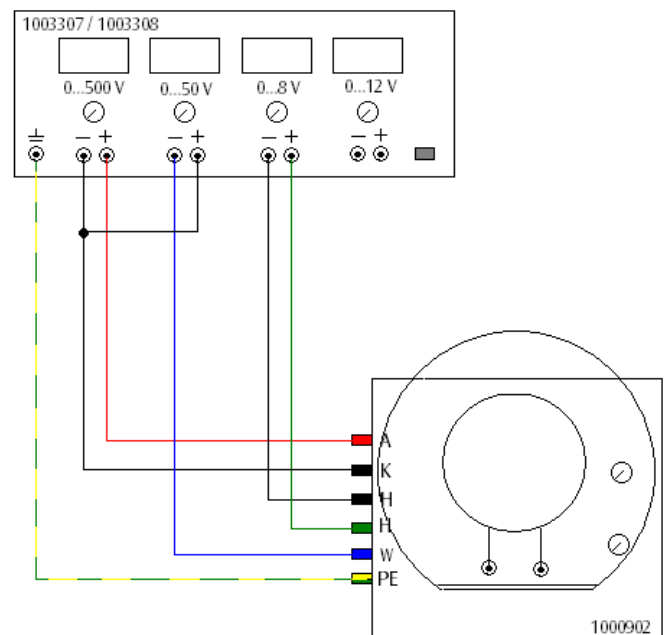

Fig. 4: Connection of training oscilloscope to power supply.
- Connect the inputs of the training oscilloscope to the outputs of the power supply that supply the specified voltages (see fig. 4).
- Set up the experiment as in fig. 4.